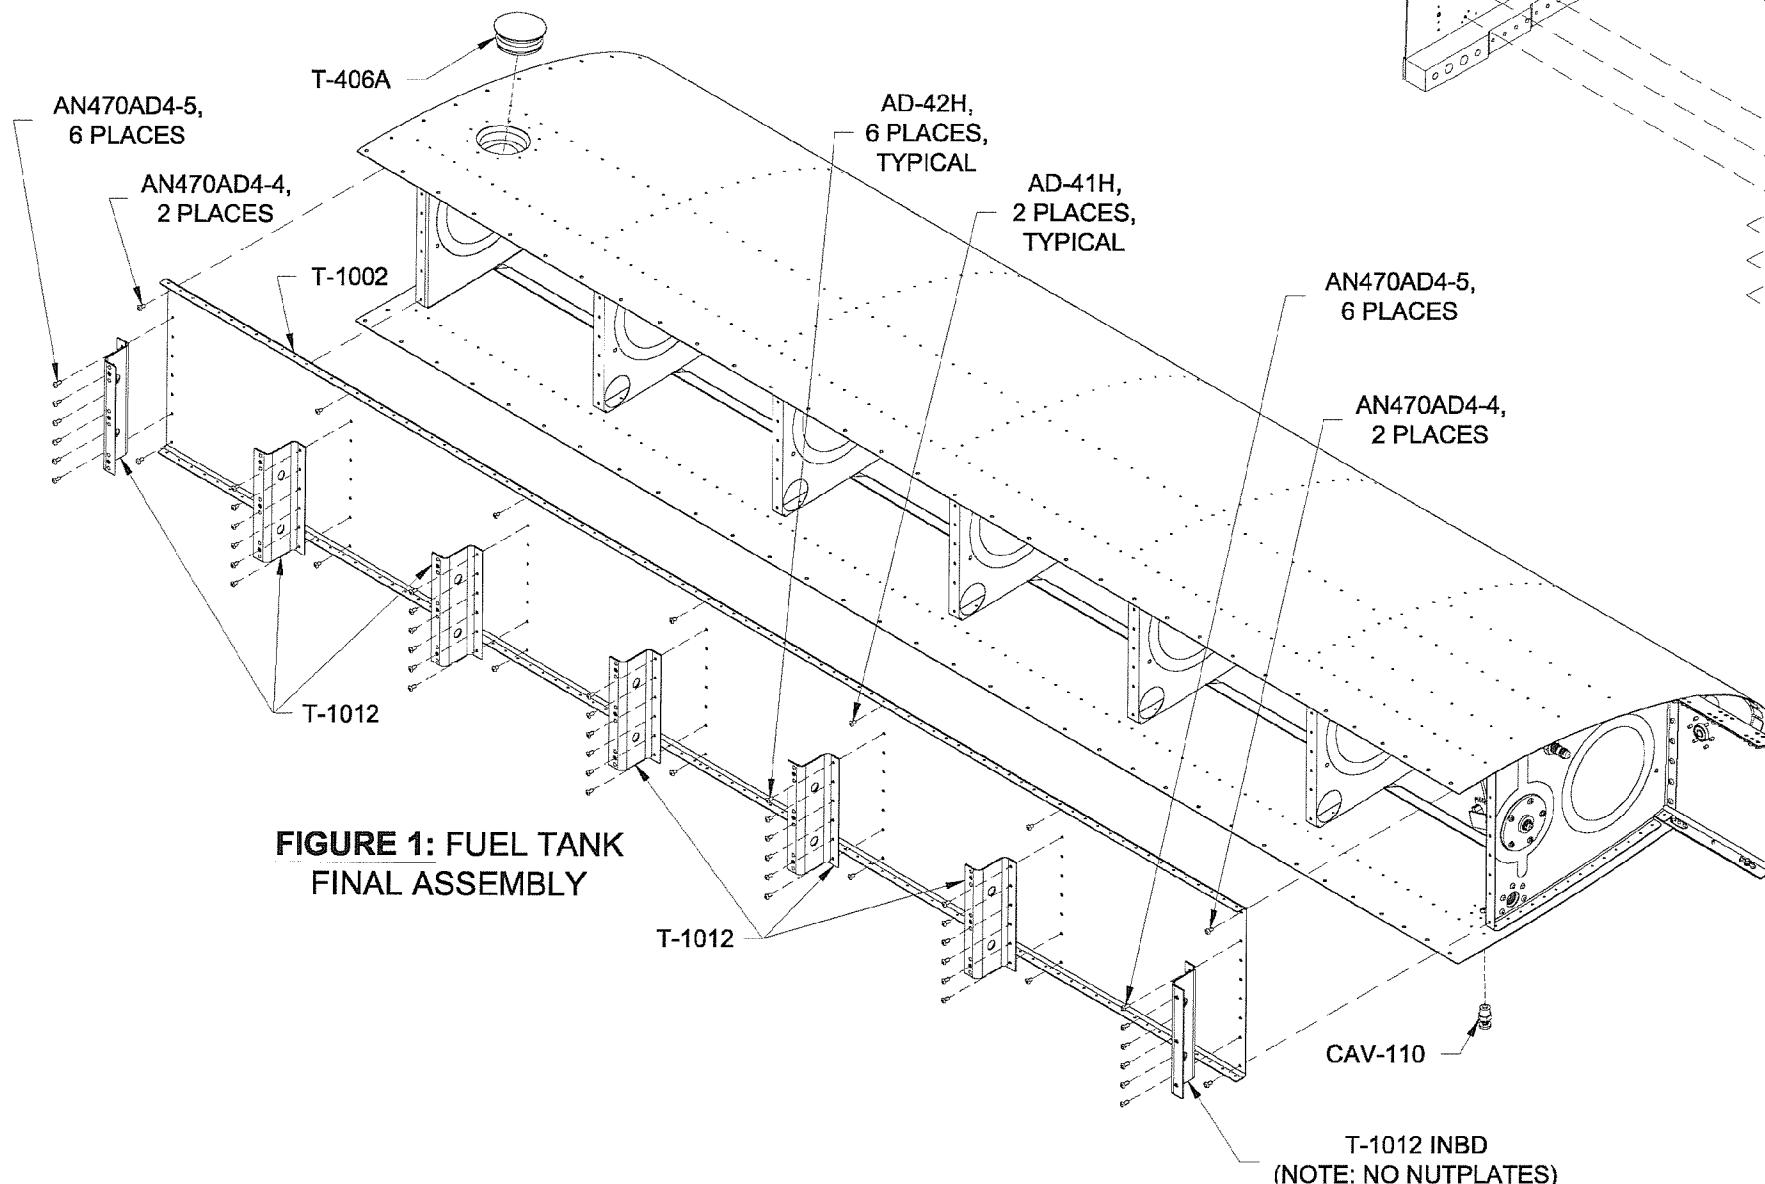

FIGURE 1: FUEL TANK FINAL ASSEMBLY
Step 2: Install the rivets attaching the T-1002 Tank Baffle to the T-1003 and T-1004 Fuel Tank Rib flanges as shown in Figure 1. Twirl the closed-end blind rivets in sealant just before installation. The solid rivets that are installed through the end ribs need not be twirled in sealant.
Step 3: Apply a thin smear of sealant over each hole for mounting the T-1012 Tank Attach Zee's. Cleco the tank attach zee's in place. Check for proper tank attach zee orientation as shown in Figure 1.
Install the tank attach zee to tank baffle to rib flange rivets as shown in Figure 1. Twirl the closed-end blind rivets in sealant just before installation. The solid rivets that are installed through the end ribs need not be twirled in sealant.